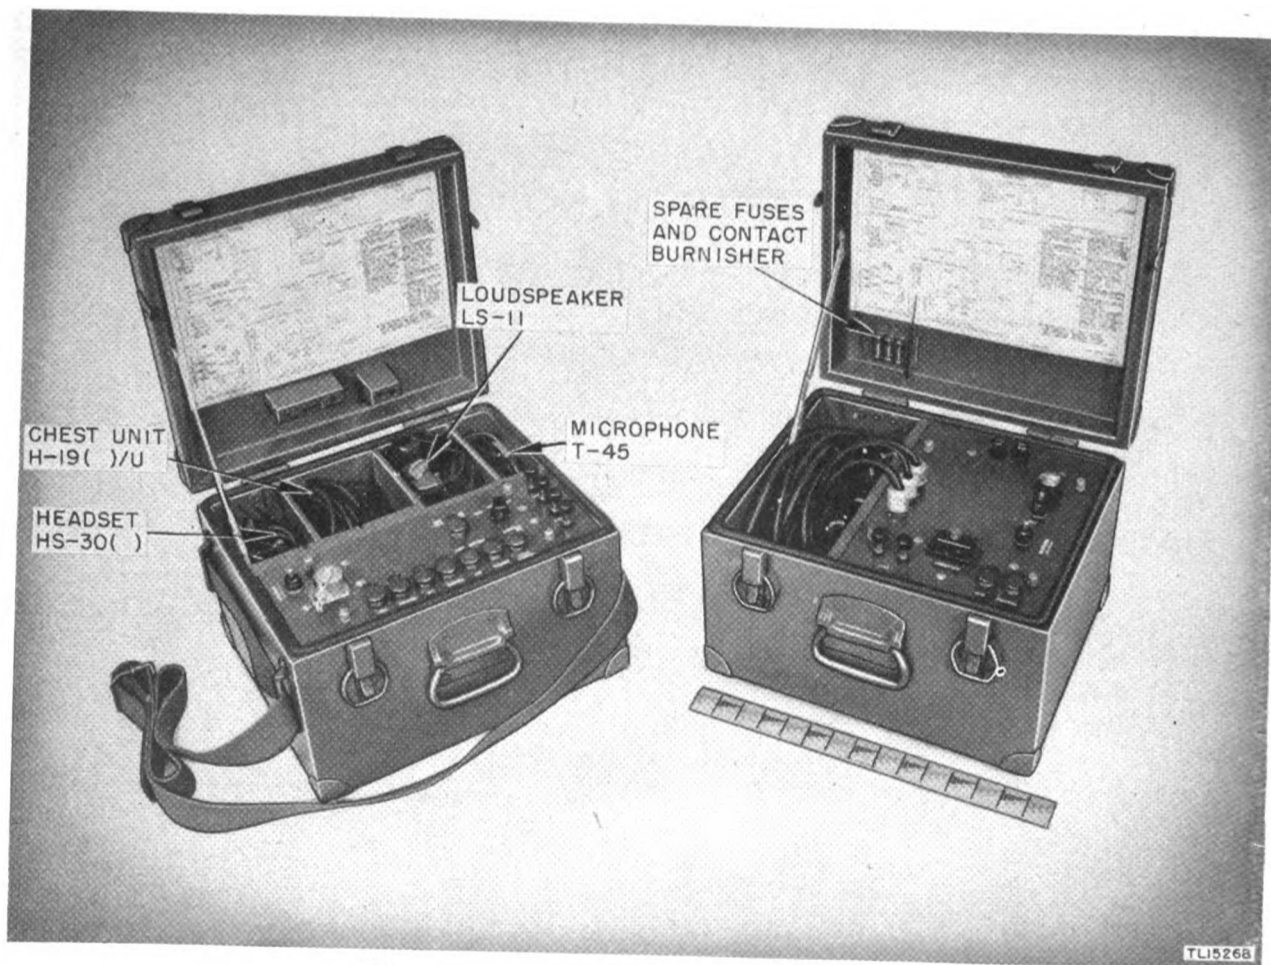
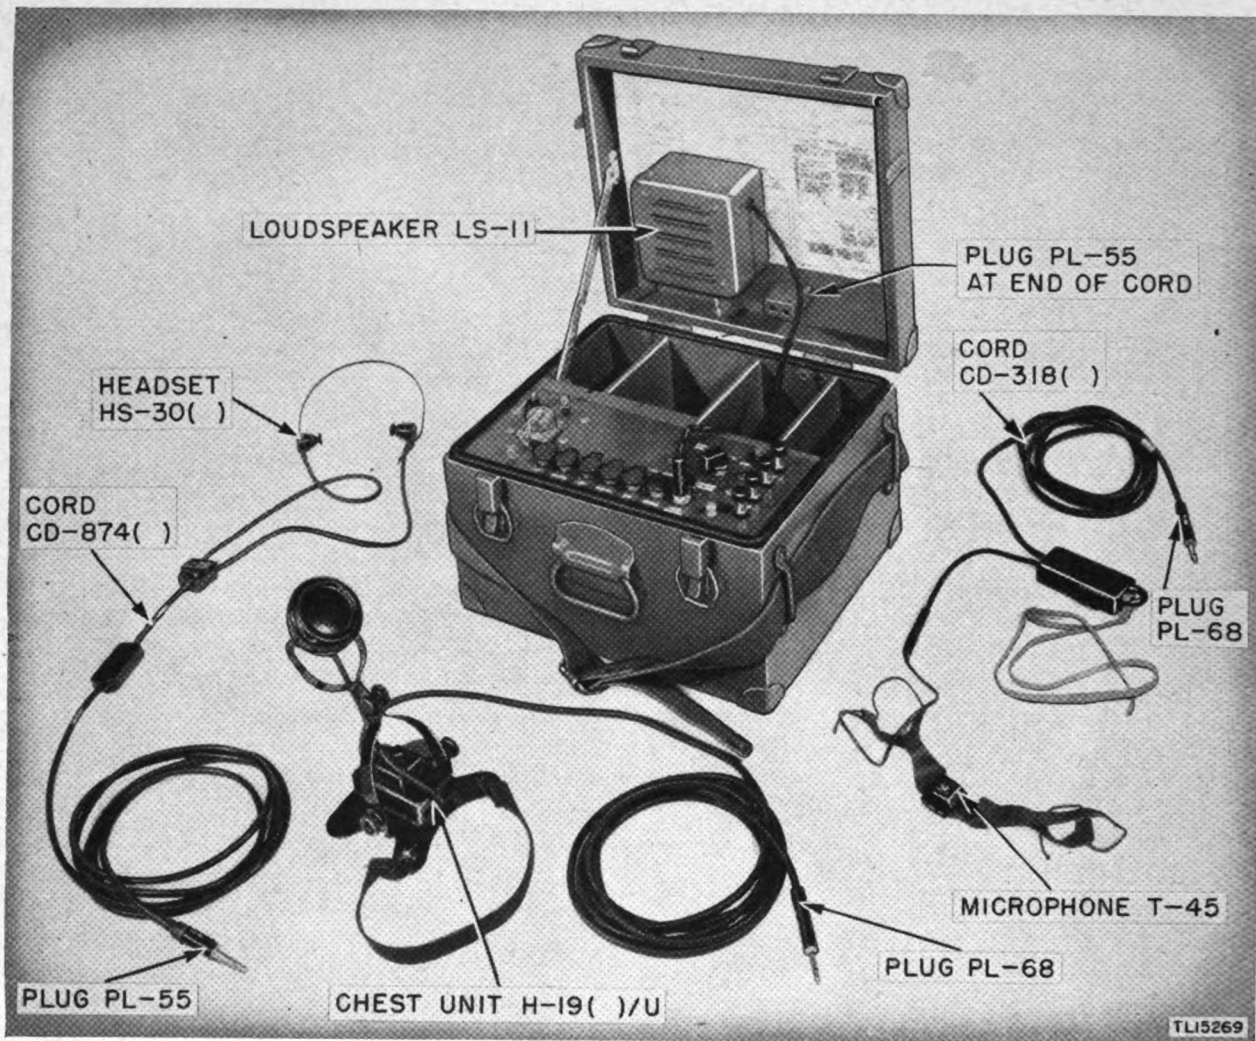
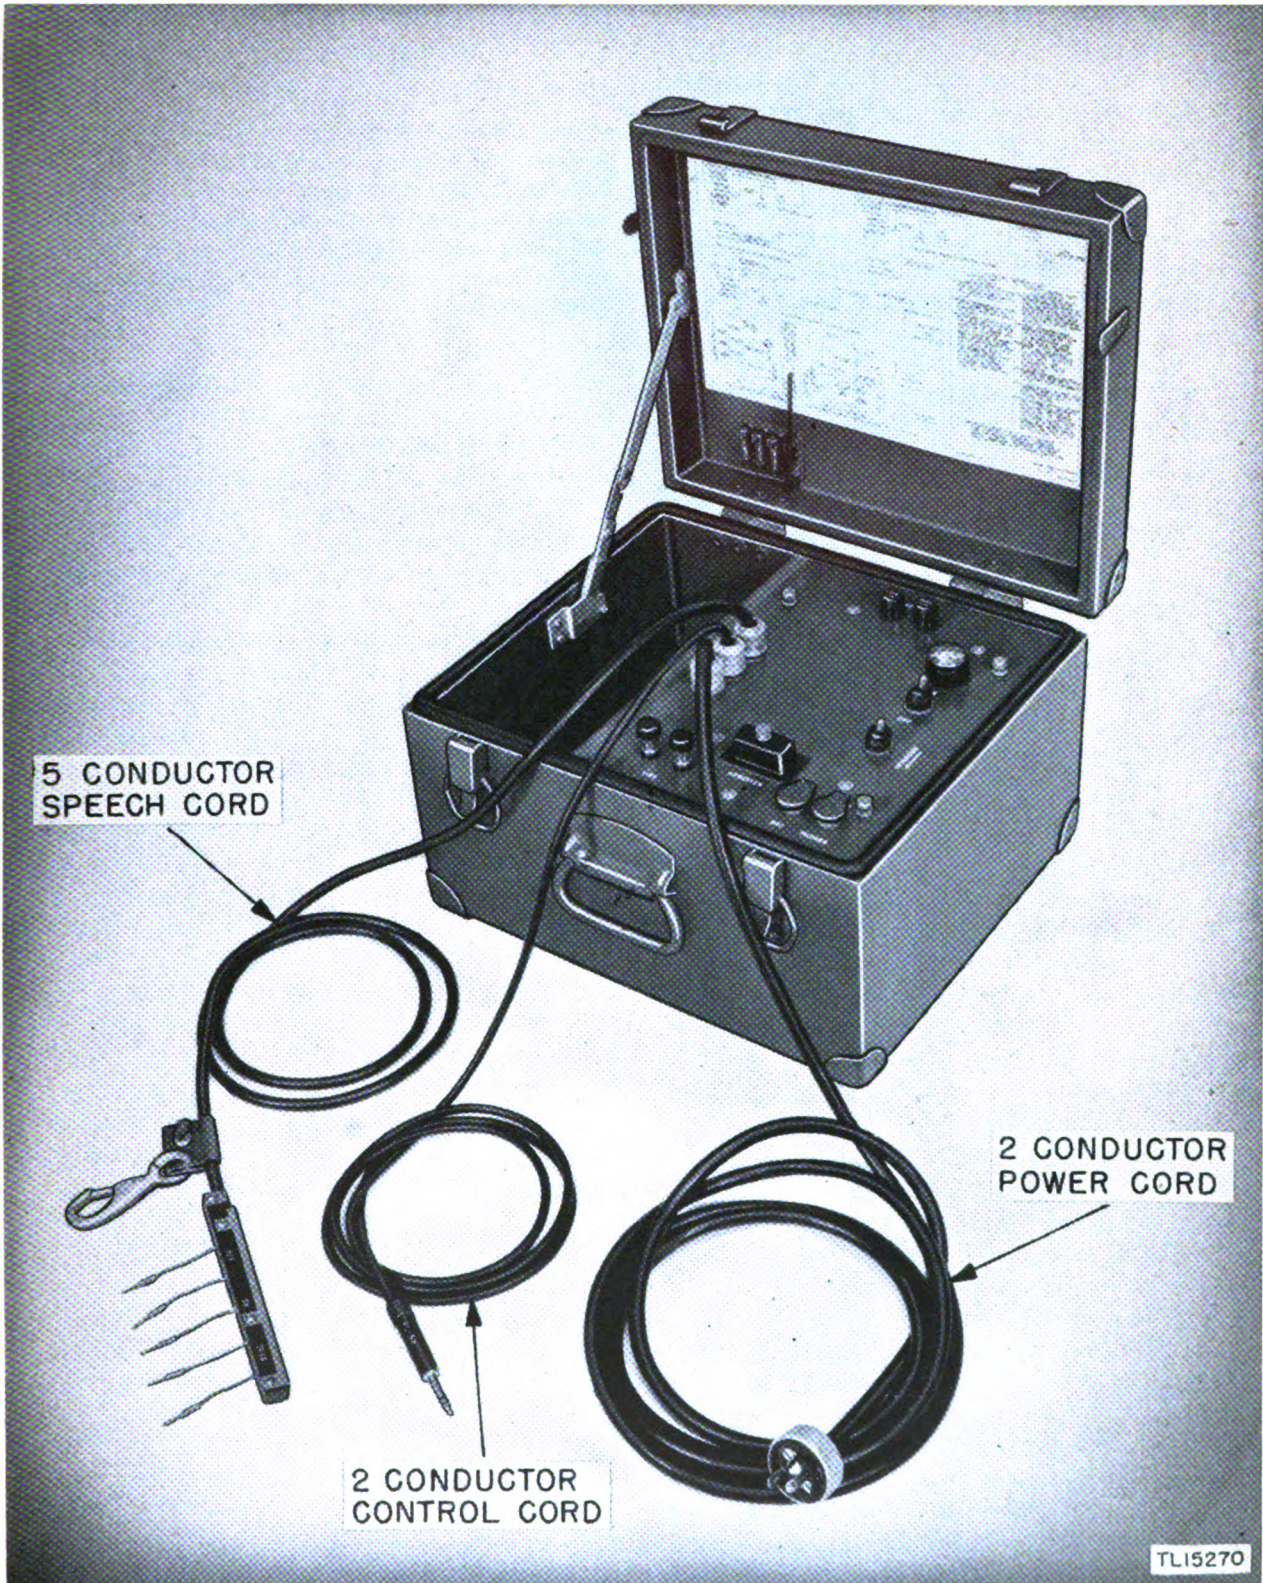

Figure 1.—Remote Control Equipment AN/TRA-2
Figure 2. Remote control unit C-112/TRA-2.
Figure 3. Control unit C-113/TRA-2.
This manual describes the installation, operation, and maintenance of Remote Control Equipment AN/TRA-2. The complete equipment consists of two separate man-transportable units in individual carrying cases and is shown in figure 1 with the accessories properly stored. Remote Control Equipment AN/TRA-2 provides for the remote control of Radio Set AN/TRC-1 or equivalent radio communication equipment. The two major components are Remote Control Unit C-112/TRA-2 (fig. 2) and Control Unit C-113/TRA-2 (fig. 3). Control Unit C-113/TRA-2 operates from a 115- or 230-volt, 50- to 60-cycle, a-c power source. Remote Control Unit C-112/TRA-2 operates from current supplied by Control Unit C-113/TRA-2.
b. Control Unit C-113/TRA-2 is provided with three fixed cords: a 6-foot, 5-conductor *speech* cord; a 6-foot, 2-conductor *control* cord; and a 10-foot, 2-conductor *power* cord (fig. 3). The speech cord, terminating in a special five-pin connector, and the control cord, terminating in Plug PL-68, connect to Radio Transmitter T-14()/TRC-1 in the three methods of operation. The power cord, terminating in a standard outlet plug, connects to the 115-volt a-c power source of the transmitter.